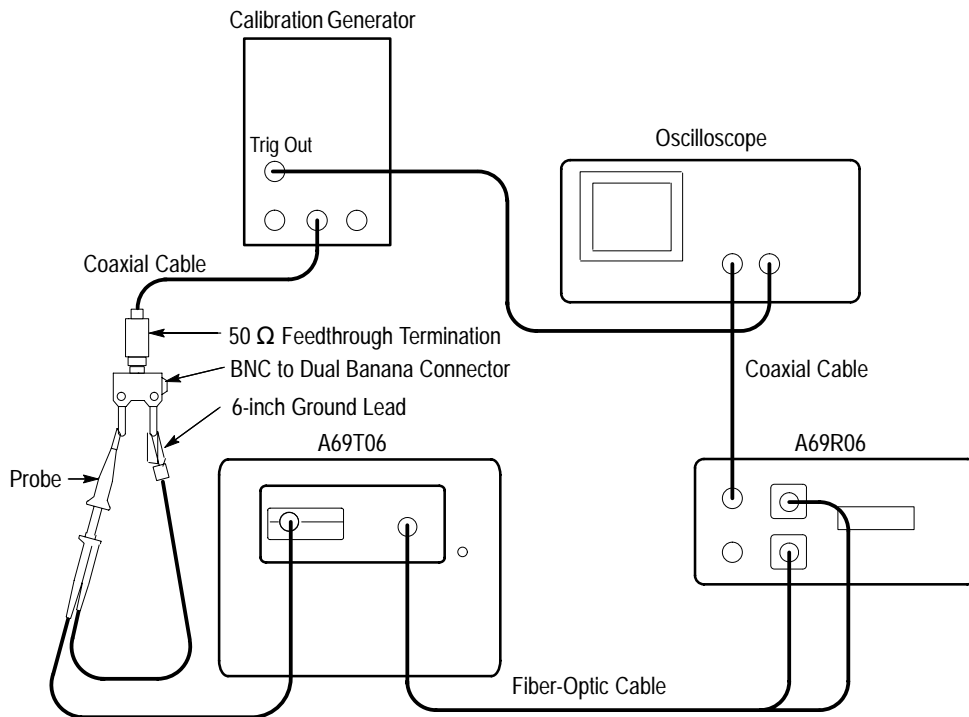

Figure 11: Rise Time Check Setup
- Attach a coaxial cable to the fast rise output of the calibration generator. Attach a  $50 \Omega$  feedthrough termination to the other end of the coaxial cable. Attach a BNC to Dual Banana Connector to the  $50 \Omega$  feedthrough termination, and connect the A6906S probe to the banana jacks. Make sure the probe tip is connected to the signal jack and the 6-inch ground lead is connected to the ground jack. Attach another coaxial cable from the **Trigger Output** of the Cal Generator to channel 2 on the oscilloscope. The connections should now be configured as shown in Figure 11.